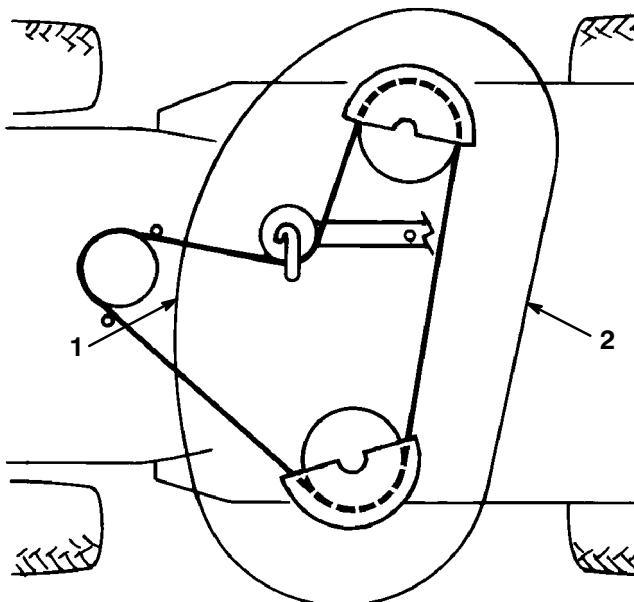

Figure 52
6. Check the front-to-rear blade slope by measuring between the bottom of the mower (front center and rear center) and the flat surface (Fig. 52). If the front is not within a range of 1/8–3/8 in. (3.5–10.5 mm) lower than the rear, an adjustment is required.
9. After adjusting both of the eyebolt locknuts evenly, check the front-to-rear slope again. Continue adjusting the eyebolts until the front blade tip is 0-3/8 in. (0-9.2 mm) lower than the rear blade tip (Fig. 52).